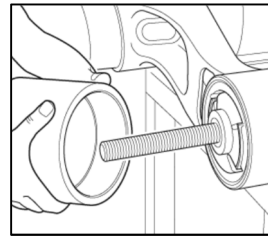

Fig.10
12. Push funnel "D" onto the trailing arm outer tube opposite the FBT "C" (Recess facing towards pivot bush) (Fig. 10).